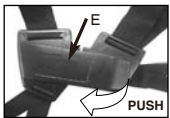

Fig. 8A
1. The shoulder straps are on your both shoulders. **NOTE:** Pull the black strip(E) in order to quickly release the harness from the operator in the event of emergency. (Fig 8A)